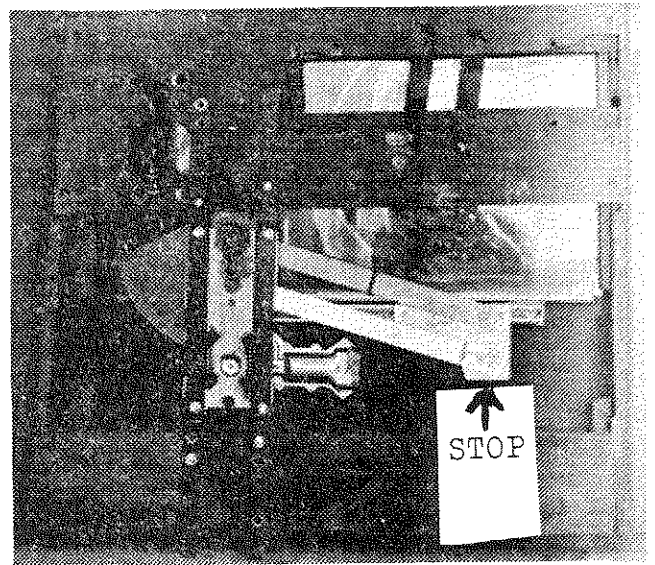

Fig. 6
14. Reinstall a lower glass stop at location shown in (Fig. 6)